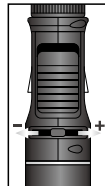

Fig.2
1. Set Gas Control Lever at mid position to start the flow of gas.(Fig.2)